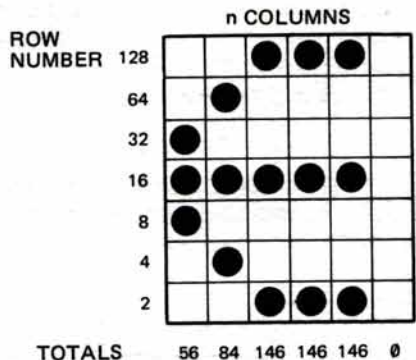

Figure 4-2 Designing a Graphic
1. Use a $7 \times n$ grid of small squares to design your graphic. (n represents any number, 1 through 480.) Number the rows of boxes as shown in the example in Figure 4-2.